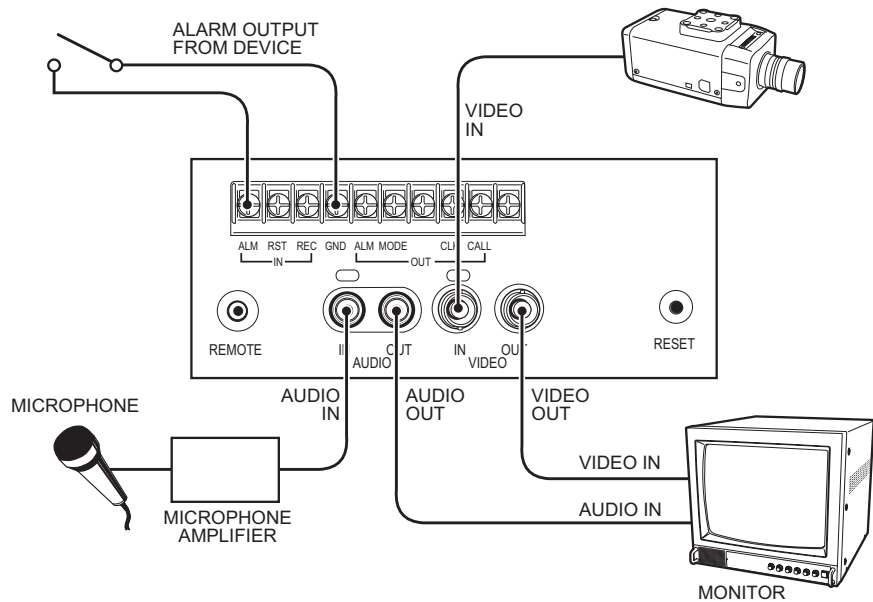

Figure 1. Typical System Setup
4. If you are **not** using a multiplexer, refer to Figure 1.